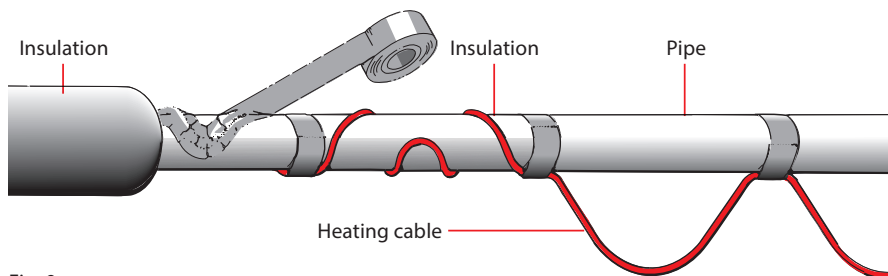

Fig. 9
2. The cable is attached to the pipe in waves or a spiral, see fig. 9.